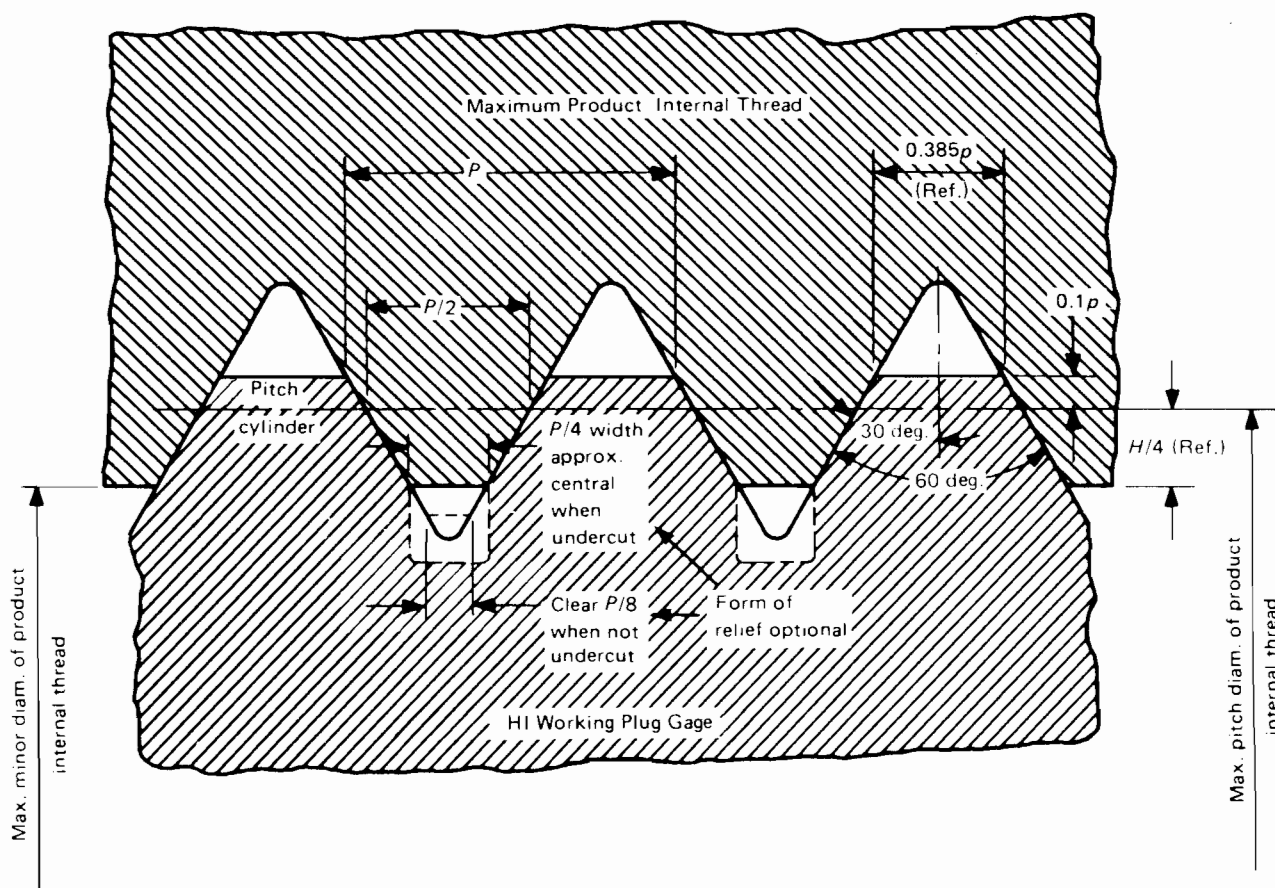

FIG. 3 HI FUNCTIONAL DIAMETER LIMIT
4.2.4 Thread Form. The specifications for thread form are summarized in Table 4 and Fig. 3.